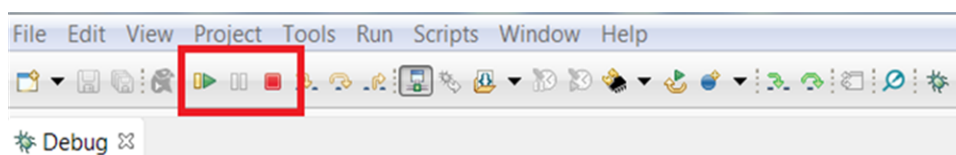

Figure 23. Execute Buttons
- Step 7. When the CCS software is connected to the device, run the program from the CCS IDE to execute the program in hardware by clicking the green play button (see Figure 23). Click the red stop button (see Figure 23) to disconnect the MSP-FET430UIF from the EVM.